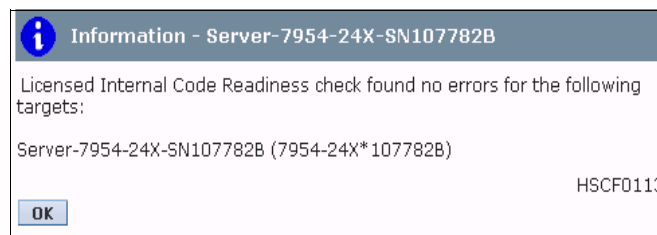

Figure 7-124 Readiness check results
- Figure 7-124 shows the results of the readiness check against the selected server. If the server was in a state that cannot be updated, the readiness check fails. Click **OK** to continue.